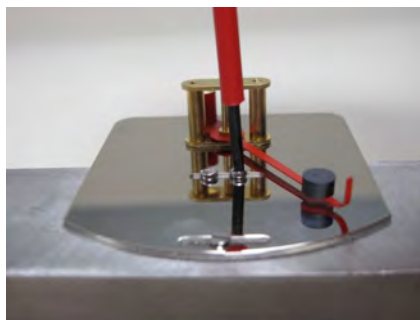

Fig. 62
13. ▶ Position the display base plate onto the device body and lightly tighten the fixing screws so that the base plate can still be moved (Fig. 62). Make sure that the